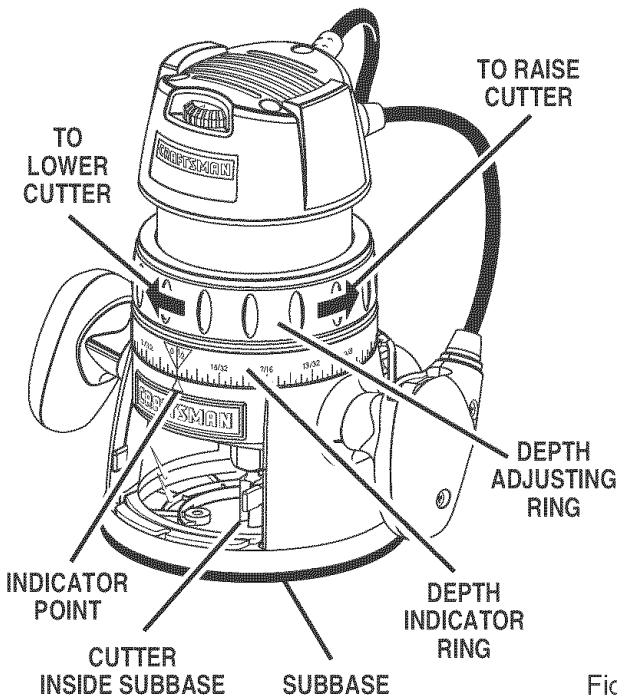

Fig. 4
- Turn depth adjusting ring until cutter is inside subbase. See Figure 4.